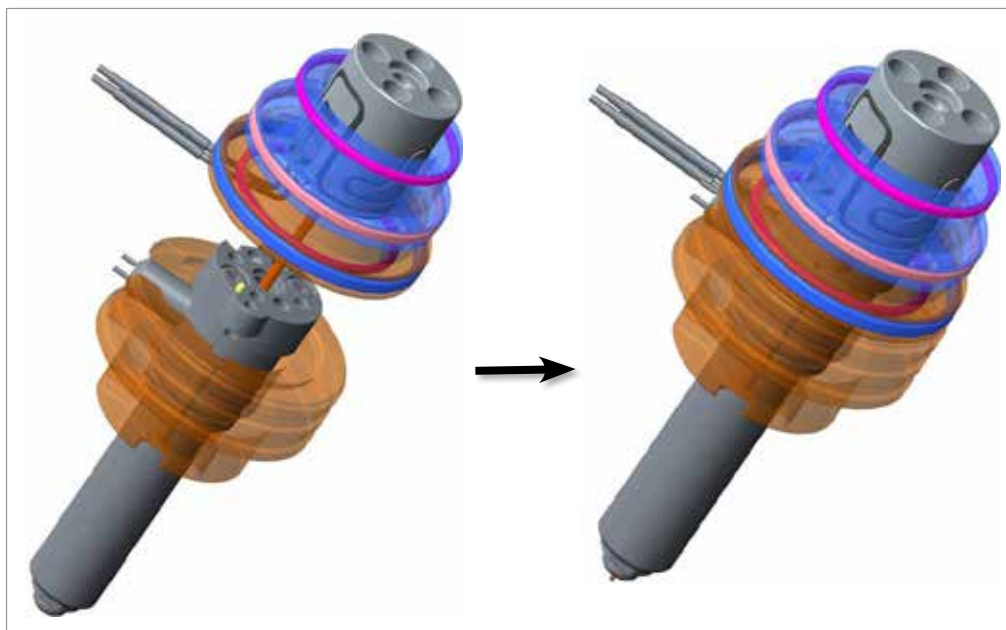

Figure 11-17 Attach valve bushing to the heated body
16. Position the dowel on the valve bushing to align with the slot on the heated body. Carefully attach the valve bushing unit to the heated body. See Figure 11-17.